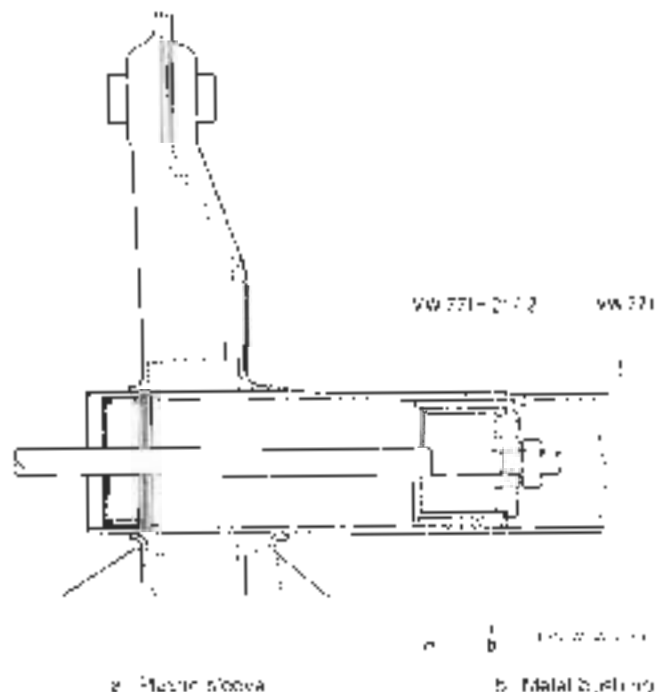

Fig. 7-18. Toggle washer in position to pull out metal bushing without removing plastic sleeve.
4. If the metal bushing has worn to a diameter greater than 43.40 mm (1.7086 in.), pull it out with a slide hammer and the tools shown in Fig. 7-18.